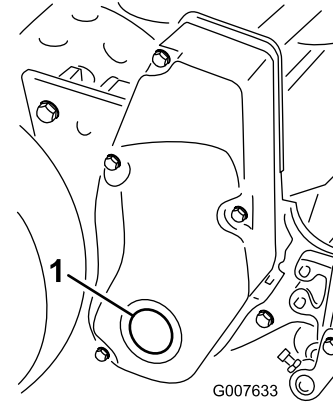

Figure 63
1. Remove the plug in the right reel-drive cover (Figure 63).